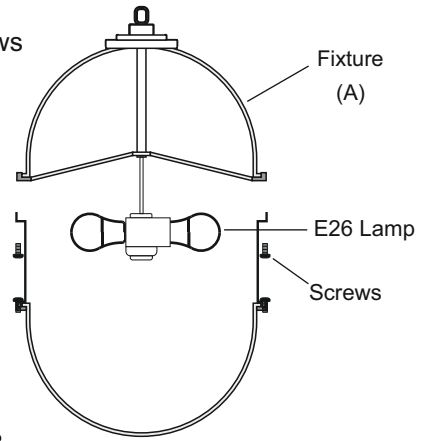

FIGURE-2
- To Install the bulb's unassembled the top "A" part of the fixture by unscrewing the screws as shown in figure 2 and after inserting the bulb assemble the fixture back and follow the below steps for further Installation. See Figure-2.